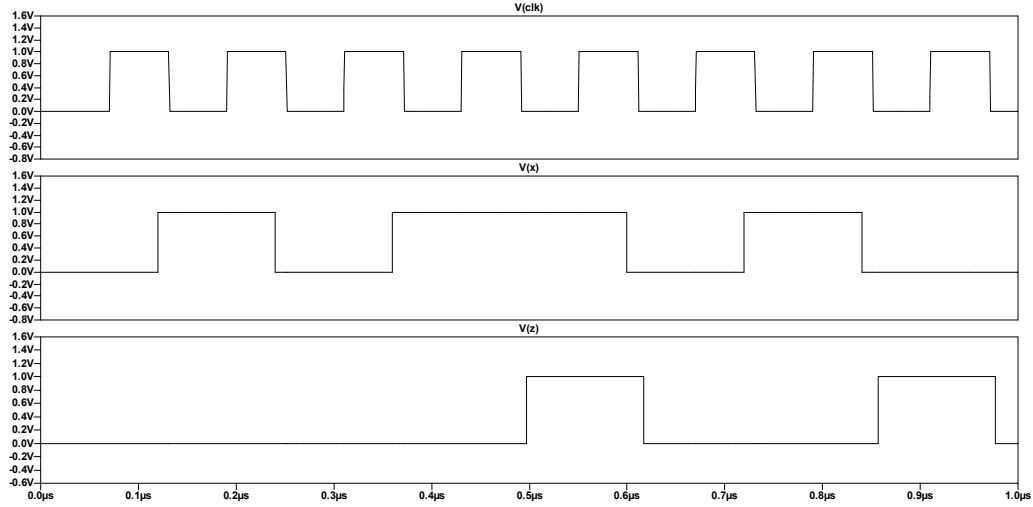

Figure 8: LTspice Simulation Traces V(CLK), V(X) and V(Z) for Q12
Figure 8 shows the output V(Z) as a flat line indicating the circuit is not operating correctly due to being clocked too fast.
Figure 8 shows the output V(Z) now producing the correct output when clocked at 120ns. Introducing a delay of 10ns, the time between a change in V(x) and the rising edge of V(CLK) now becomes $60ns + 10ns + 0.5ns = 70.5ns$, where the 10ns is the additional delay and 0.5ns, the delay caused by a 1ns rise time. the mesured value of $t_{JHBCD} = 70.36$ which is less than 70.50ns therefore will propegate in time V(Z) to be clocked.